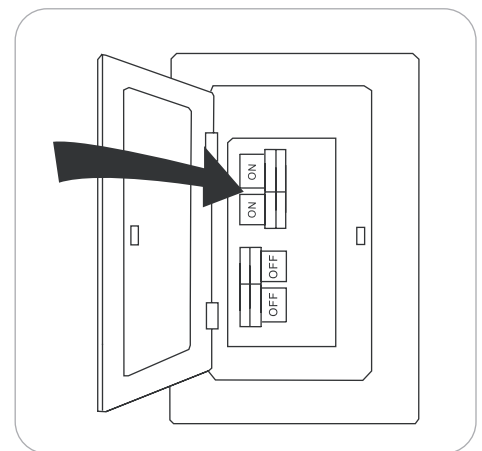

Figure 4.12
12. Turn on power to fan at breaker box and the wall switch (Figure 4.12).